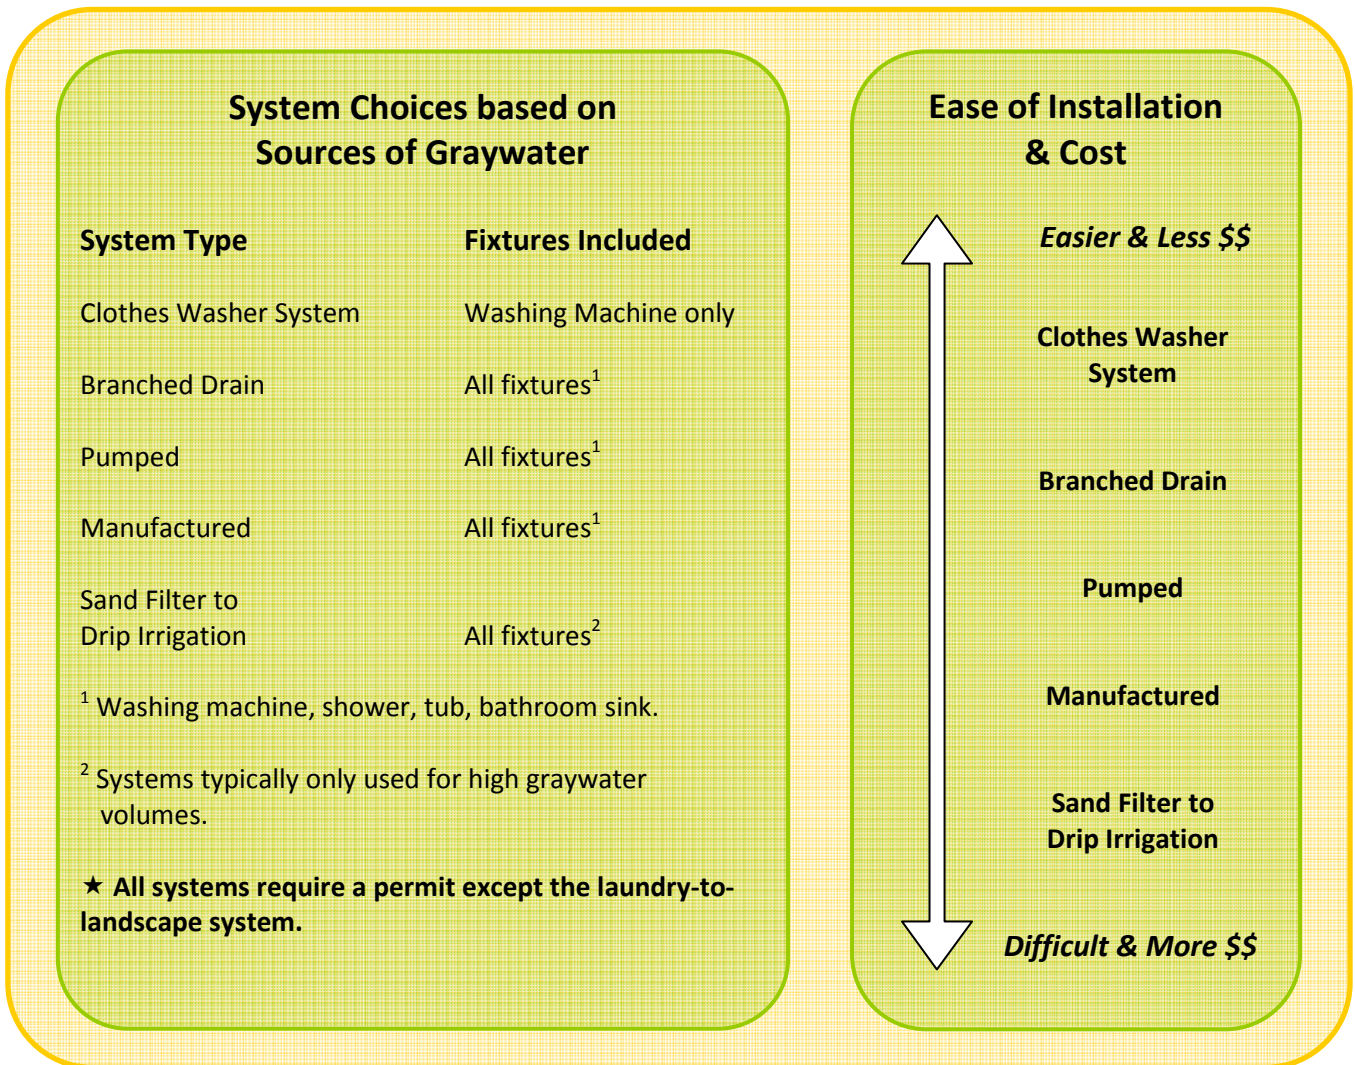

Figure 3: Use the figure above to help decide what type of graywater system you can install and afford.
3. **Decide which type of Graywater System is best for you.** Review Figure 3 on the next page for information on costs and system choices. If you choose to include fixtures other than a clothes washing machine (permit required) contact a qualified Site Evaluator to design your system and skip to #8 on the next page.